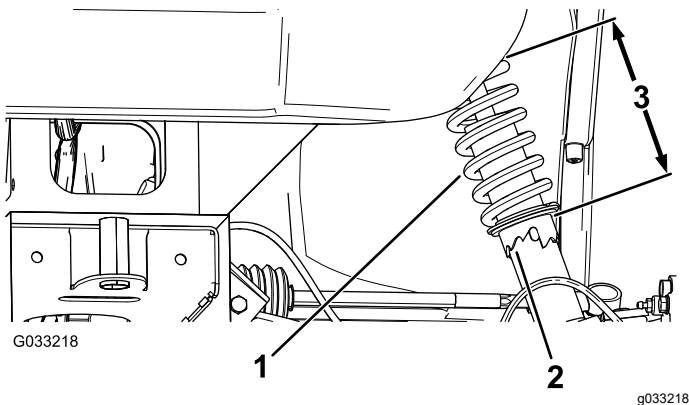

Figure 56
2. If the wheel camber is out of alignment, use the spanner wrench to rotate the collar on the shock absorber to align the wheel (Figure 56).